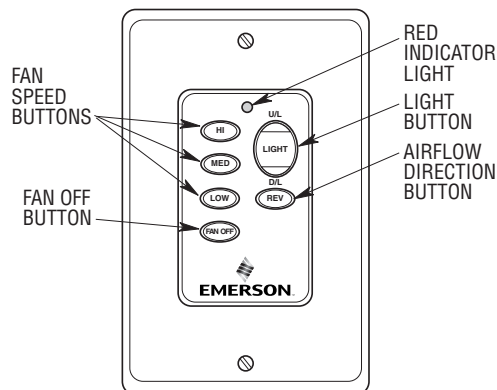

Figure 27
Your SW116 Fan/Light Wall Control (Figure 27) has full control of your fan, lights, and airflow direction.
1. To set the desired fan speed, push the HI, MED, or LOW buttons to operate your fan on high, medium or low speed (See Figure 27).